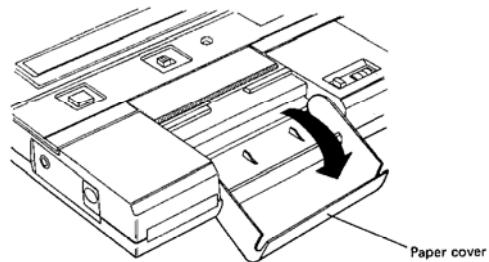

Fig. 1
- (1) Turn off the printer switch.
- (2) Open the paper cover. (Fig. 1)